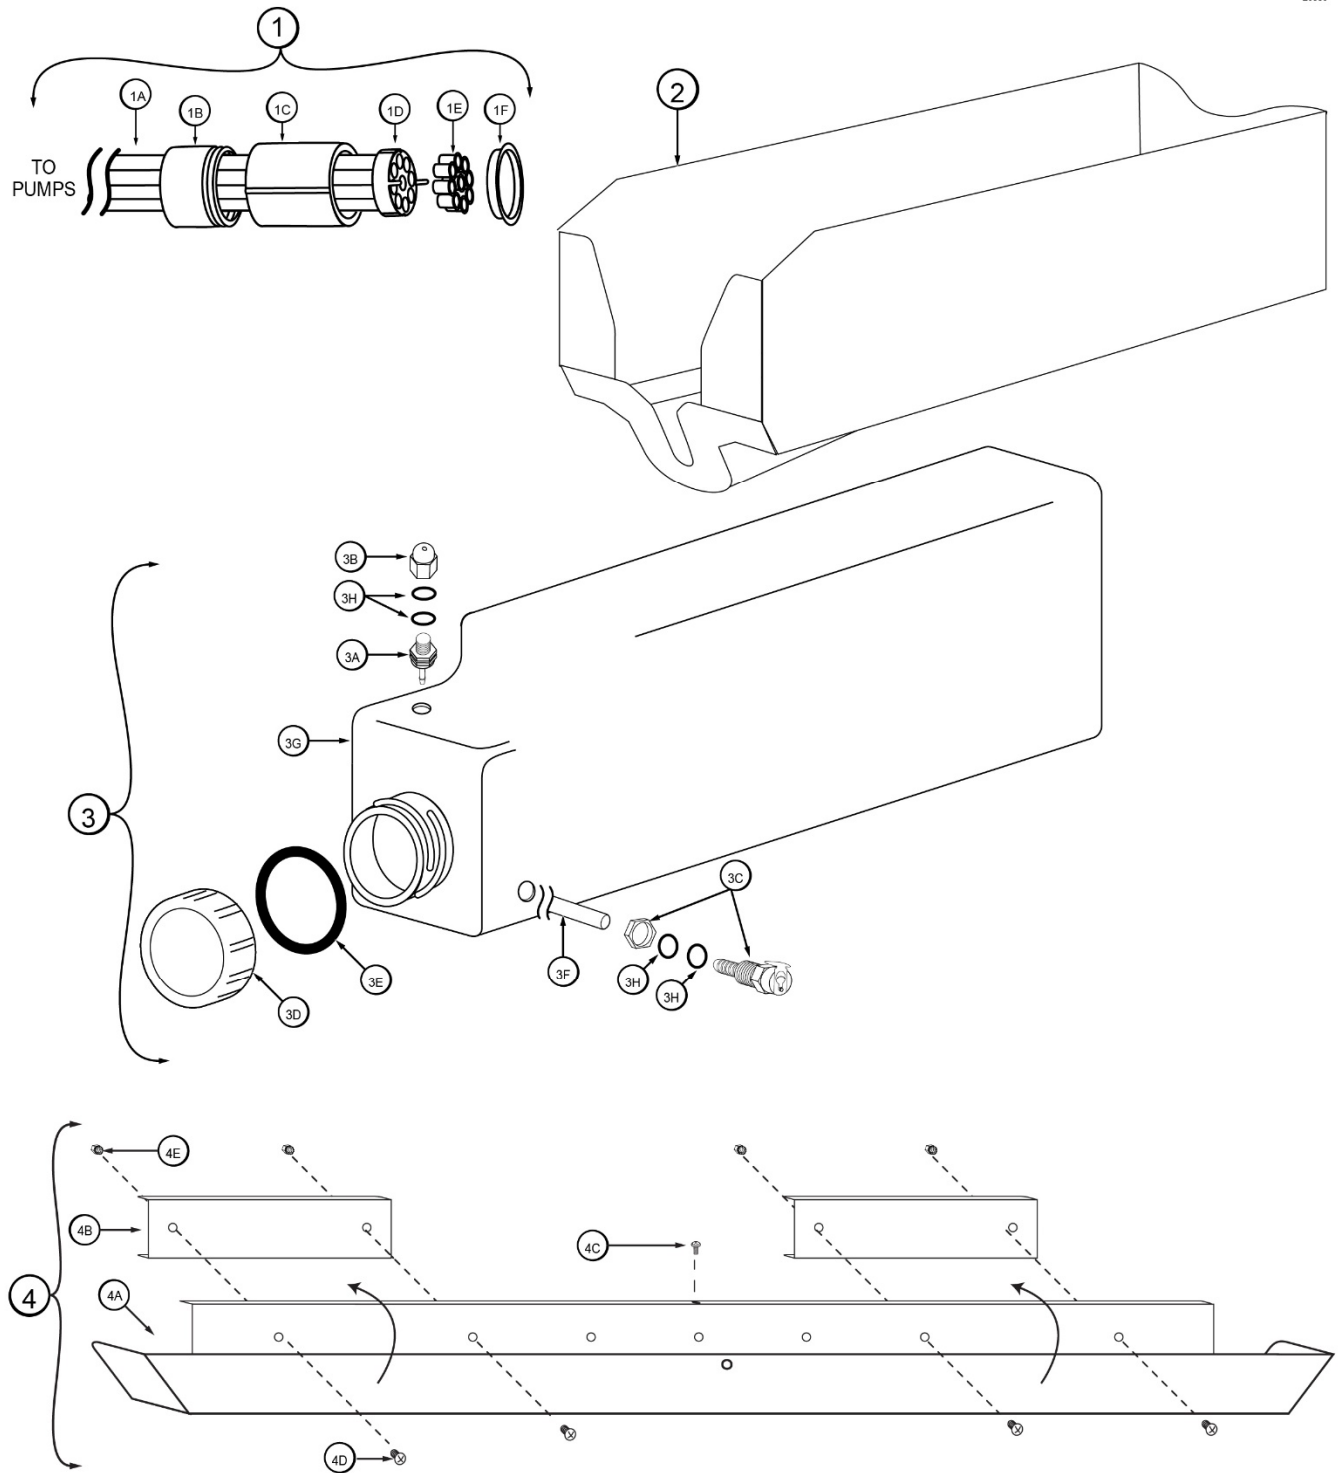

Figure 6
**Syrup Tray, Sanitizer Tank, 9-Tube Assembly Lead, and Casing (See Figure 6)**